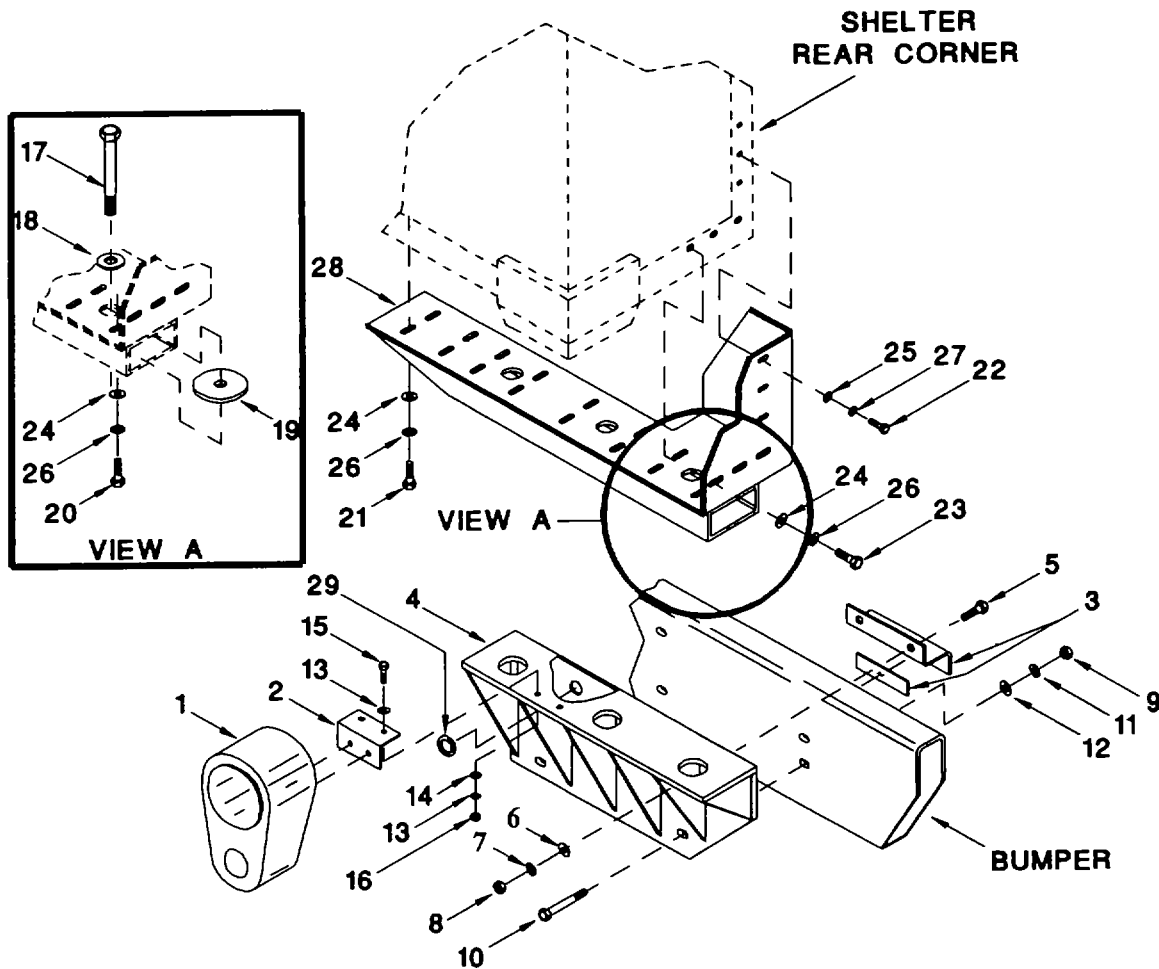

Figure 4-1. Rear Bracket Mounting Assembly
- a. Vehicle Preparations. (Refer to Figure 4-1)
- (1) Remove wheel well side panels located on each side of vehicle per TM 9-2320-280-20.
- (2) Carefully feed antenna cable back through wheel well grommet, place protective cap over connectors, and secure cables behind cross member support in wheel well.
- (3) From inside the curbside rear wheel well, remove the wiring harness clamp mounting bracket.
- (4) Remove cable clamps from wiring.
- (5) Remove tail lights from HMMWV lower frame per TM 9-2320-280-20. Retain hardware.
- (6) Secure tail lights (1) to tail light mounting brackets (2) using bolts and washers removed in step (5).
- (7) Make a single cut through grommet and place it around the tail light wiring.
- (8) Remove camlock fasteners from the vehicle mounting beam located in the front of the vehicle's bed, both sides. Refer to TM 9-2320-280-20.
- (9) Remove strap tie down ring from the front of the bed floor, passenger side. Refer to TM 9-2320-280-20.
- b. Rear Shelter Preparations (Refer to Figure 4-1)